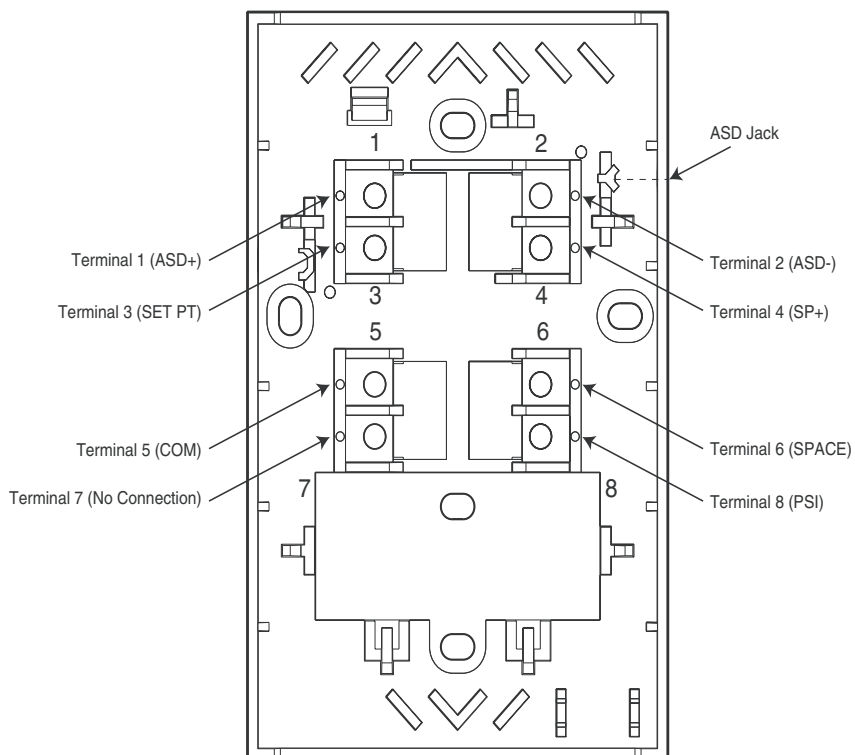

Figure-3 Base Plate Terminal Identification.
3. Connect the wires to the appropriate screw terminals on the base plate. Make all connections in accordance with the job wiring diagram and in compliance with national and local electrical codes. Refer to Table-1 and Figure-3 for base plate terminal identification.
2. Using a DVM, measure the appropriate resistance between terminals SPACE and COM. Refer to Table-1 and Figure-3 for base plate terminal identification and Table-2 for the appropriate resistance for the unit being checked out.